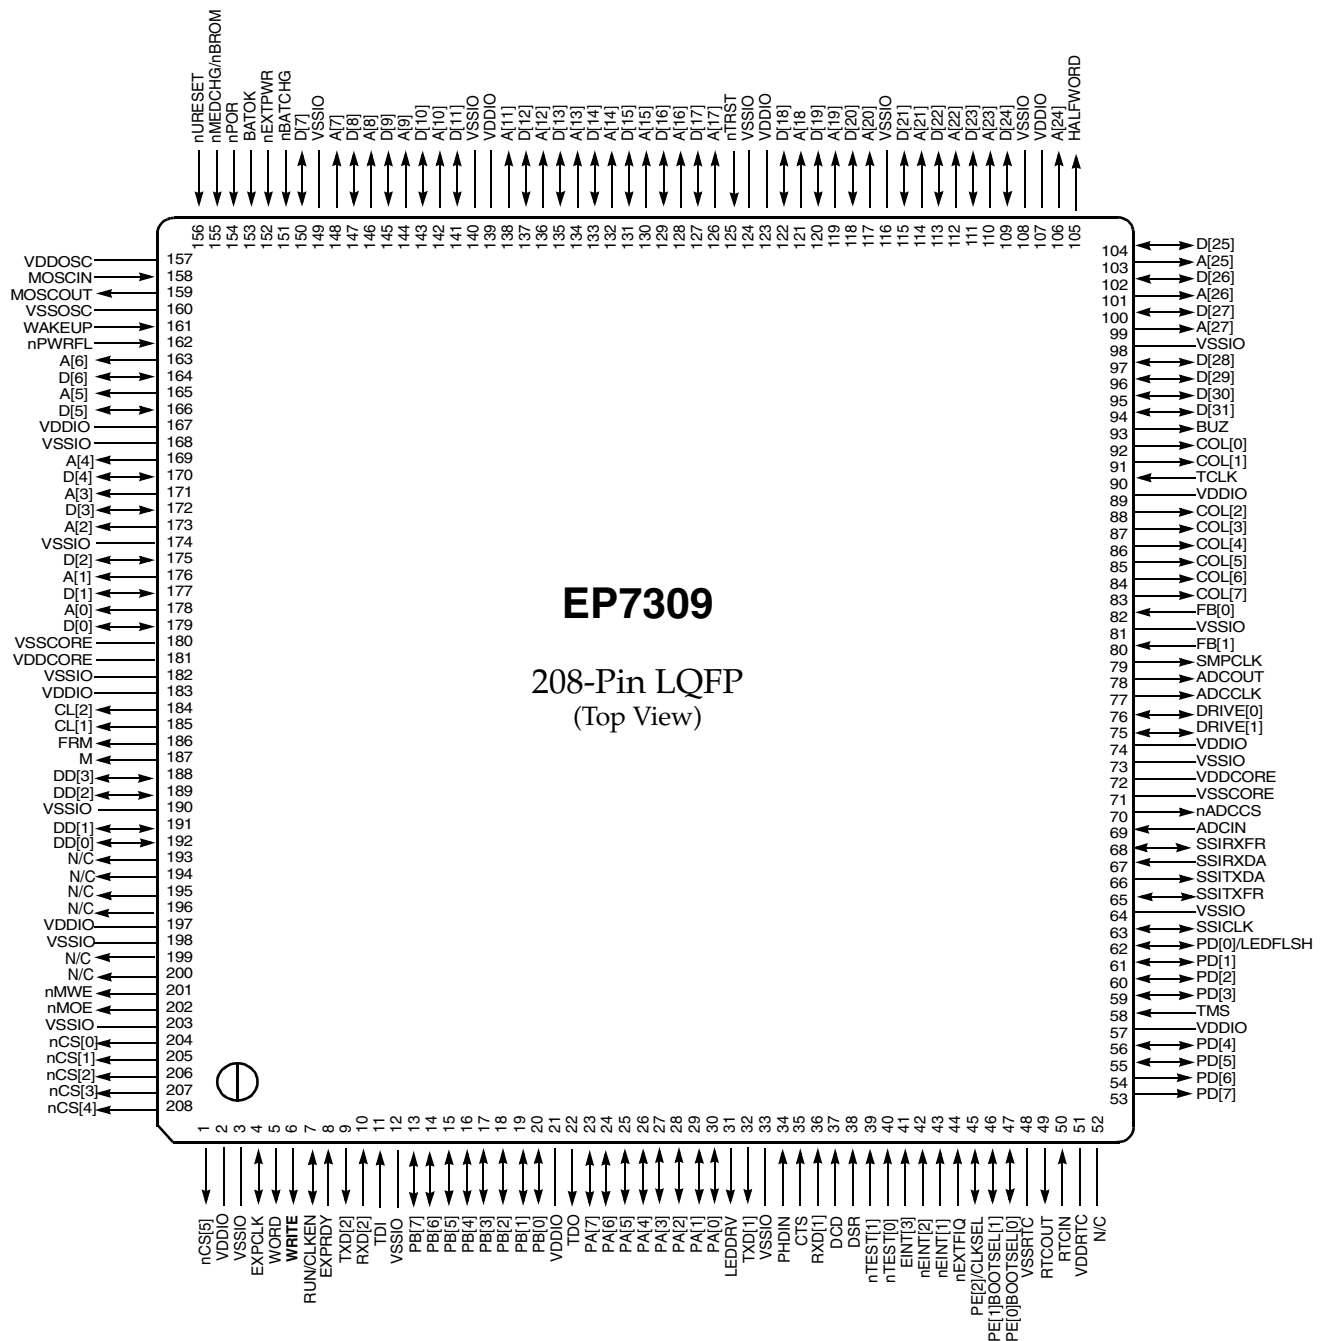

Figure 11. 208-Pin LQFP (Low Profile Quad Flat Pack) Pin Diagram
- 4) For pin locations, please see Figure 11. For pin descriptions see the EP7309 User's Manual.